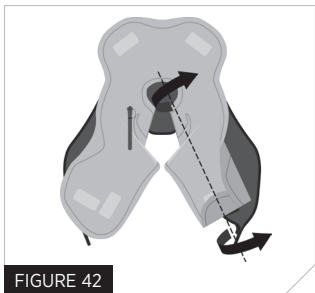

FIGURE 42
3. Fold inside edge in towards the centre of the bladder along fold line 3. The mechanism will now sit on top of the folded bladder (Fig 42).